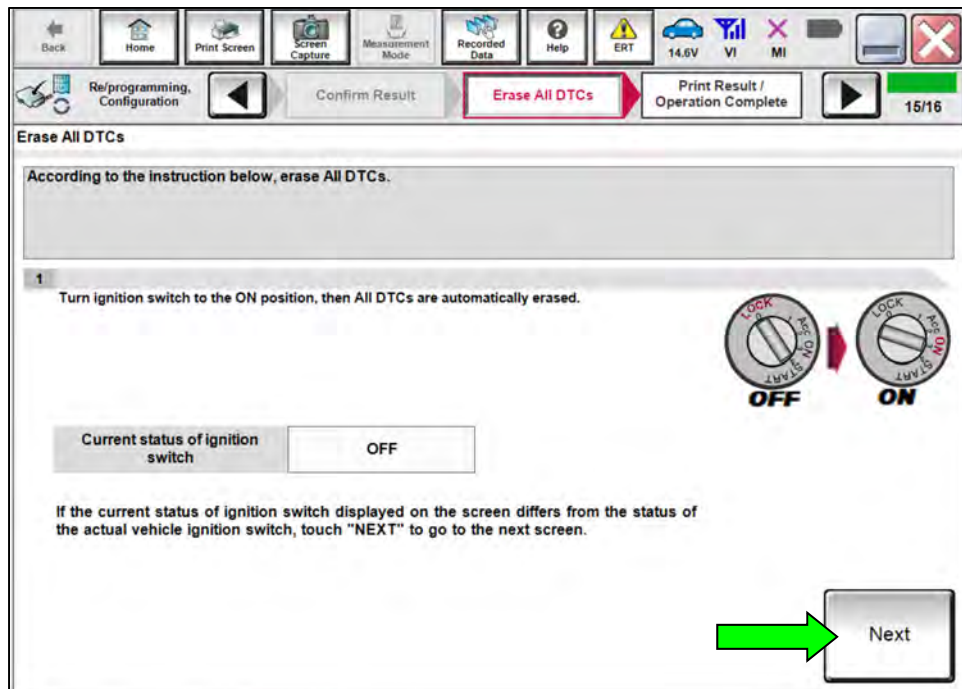

Figure 18
25. Press the power switch two (2) times to turn the EV system back on (Figure 18).